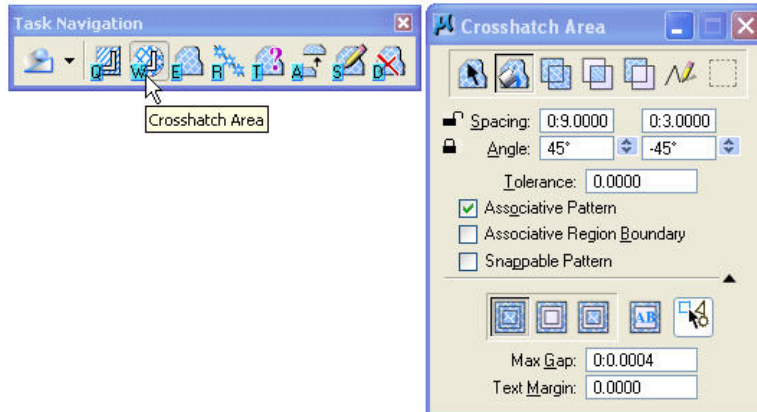

Figure P12-11 Required Crosshatch Area tool settings
STEP 5: Invoke the Crosshatch Area tool from the Patterns tool box, and, in the Tool Settings window, make the tool settings shown in Figure P12-11.